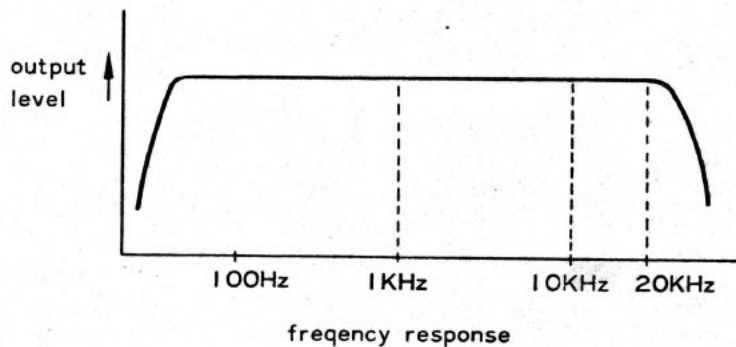

Fig. 3
- As shown in Fig. 3, increase the frequency of the Audio Frequency Oscillator by steps from 1 KHz to 10 KHz. Adjust Bias Voltage and Bias Head angle including the gap between Bias and Recording heads. The V.T.V.M. which is connected to the Line Output, should indicate the same voltage when using 1 KHz to 10 KHz.